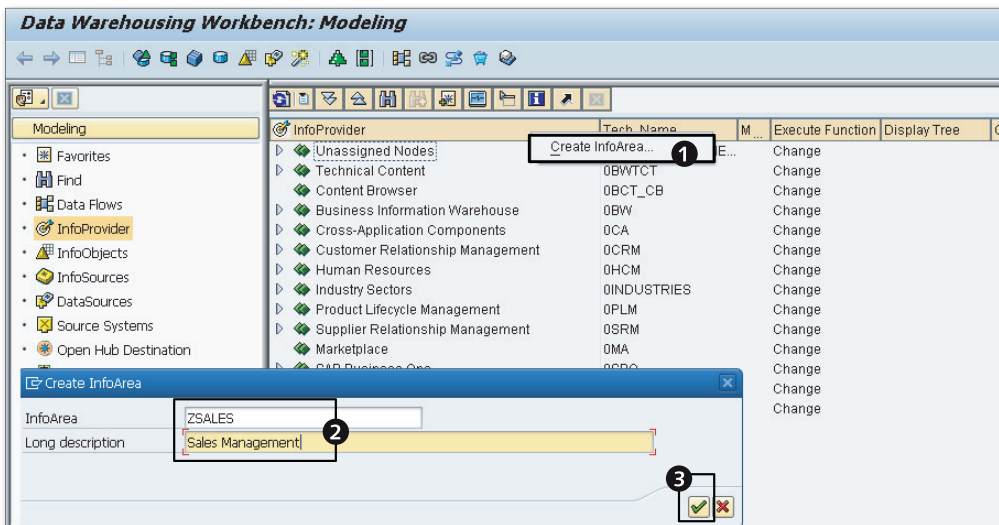

Figure 3.13 Create an InfoArea
The following are the steps to create an InfoArea, as illustrated in Figure 3.13:
3. Right-click on INFOPROVIDER, and select CREATE INFOAREA (Figure 3.13, ❶).
4. In the CREATE INFOAREA section, in the INFOAREA text field, enter the technical name for the InfoArea ("ZSALES"). In the LONG DESCRIPTION field, enter a description ("Sales Management") (Figure 3.13, ❷).
5. Click on ENTER (Figure 3.13, ❸).